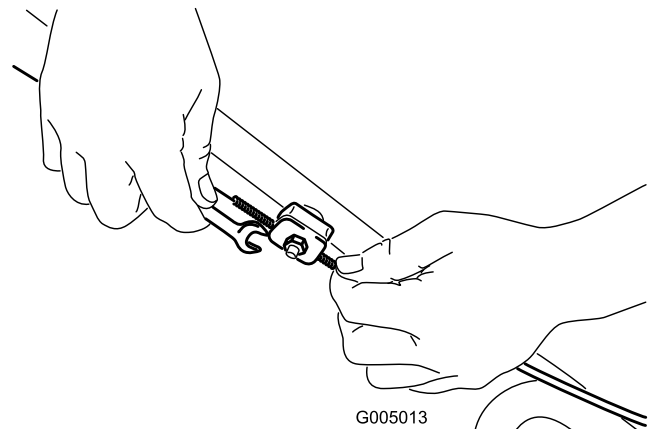

Figure 36
1. Loosen the cable support nut (Figure 36).